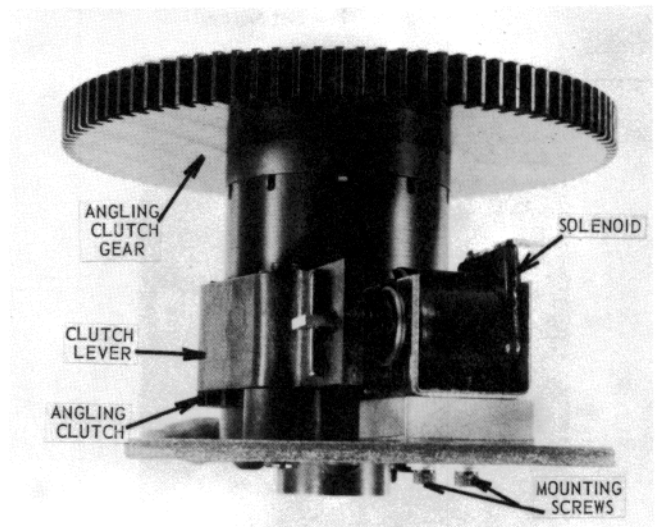

Figure 80 — Angling Clutch, Angling Clutch Gear and Angling Clutch Solenoid
- 6.1.16 Inspect the angling clutch, angling clutch gear, and angling clutch solenoid. The angling clutch solenoid is removed from its mounting plate by removing the two mounting screws (see Figure 80). Mark the position of the angling clutch support on the plate so it can be replaced in the correct position. When replacing the solenoid check for clearance between the angling clutch lever and the ratchet teeth on the clutch. Use "Duco" cement between the angling clutch support and plate before tightening screws.